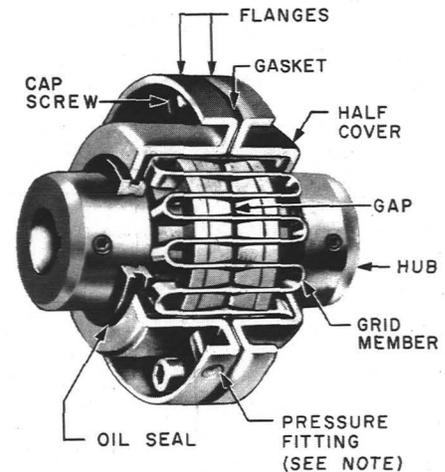

**Fig. 6 — Type C Falk Coupling Assembly**
(1) To replace a spring or an associated part in other than constant-pressure brush holders, release the spring tension. Remove the cotter pin from the brush holder pin and remove the holder pin. If an adjacent brush holder prevents removal of the holder pin, either slide the holder along the stud to obtain the necessary clearance or remove the holder on which replacements are being made. Substitute new parts as required and mount the parts in reverse order of removal.
(2) Constant-pressure brush holders are made with a coiled spring that exerts a constant pressure on the brushes. The pressure cannot be altered by external manipulation and the coiled spring cannot be replaced. Consequently the spring assemblies of this type brush holder must be replaced in their entirety. If it is suspected that poor commutation is caused by improper pressure, the manufacturer's authorized representative should be consulted.
**3.15 Gasket and Gridmember: Fig 6** — To replace either gasket or gridmember, remove the cap screws using the Allen wrench provided